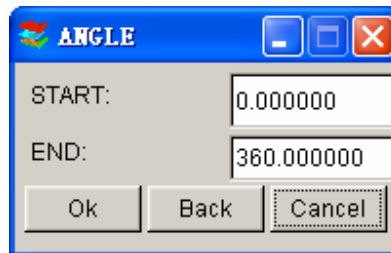

Figure 5.2.2 Revolution Angle
- Enter the start and end angles in the dialog window. See Figure 5.2.2. Select OK, and the surface will be generated after the window is closed.